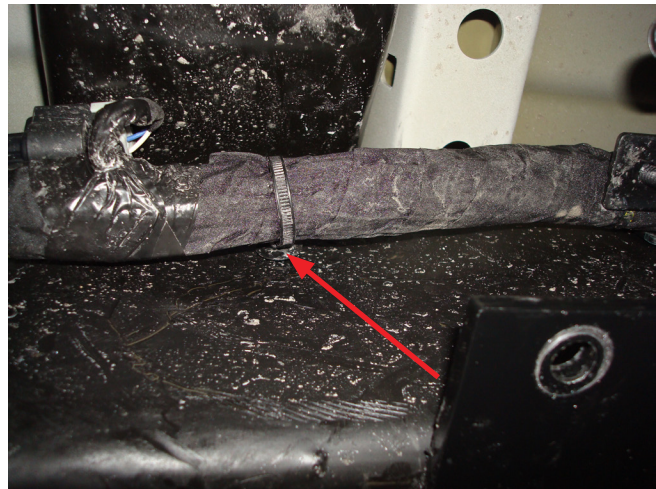

Fig. 20
7. For the driver side only, pull the tree holder holding the wiring harness onto the frame, out of the frame (Fig. 20).